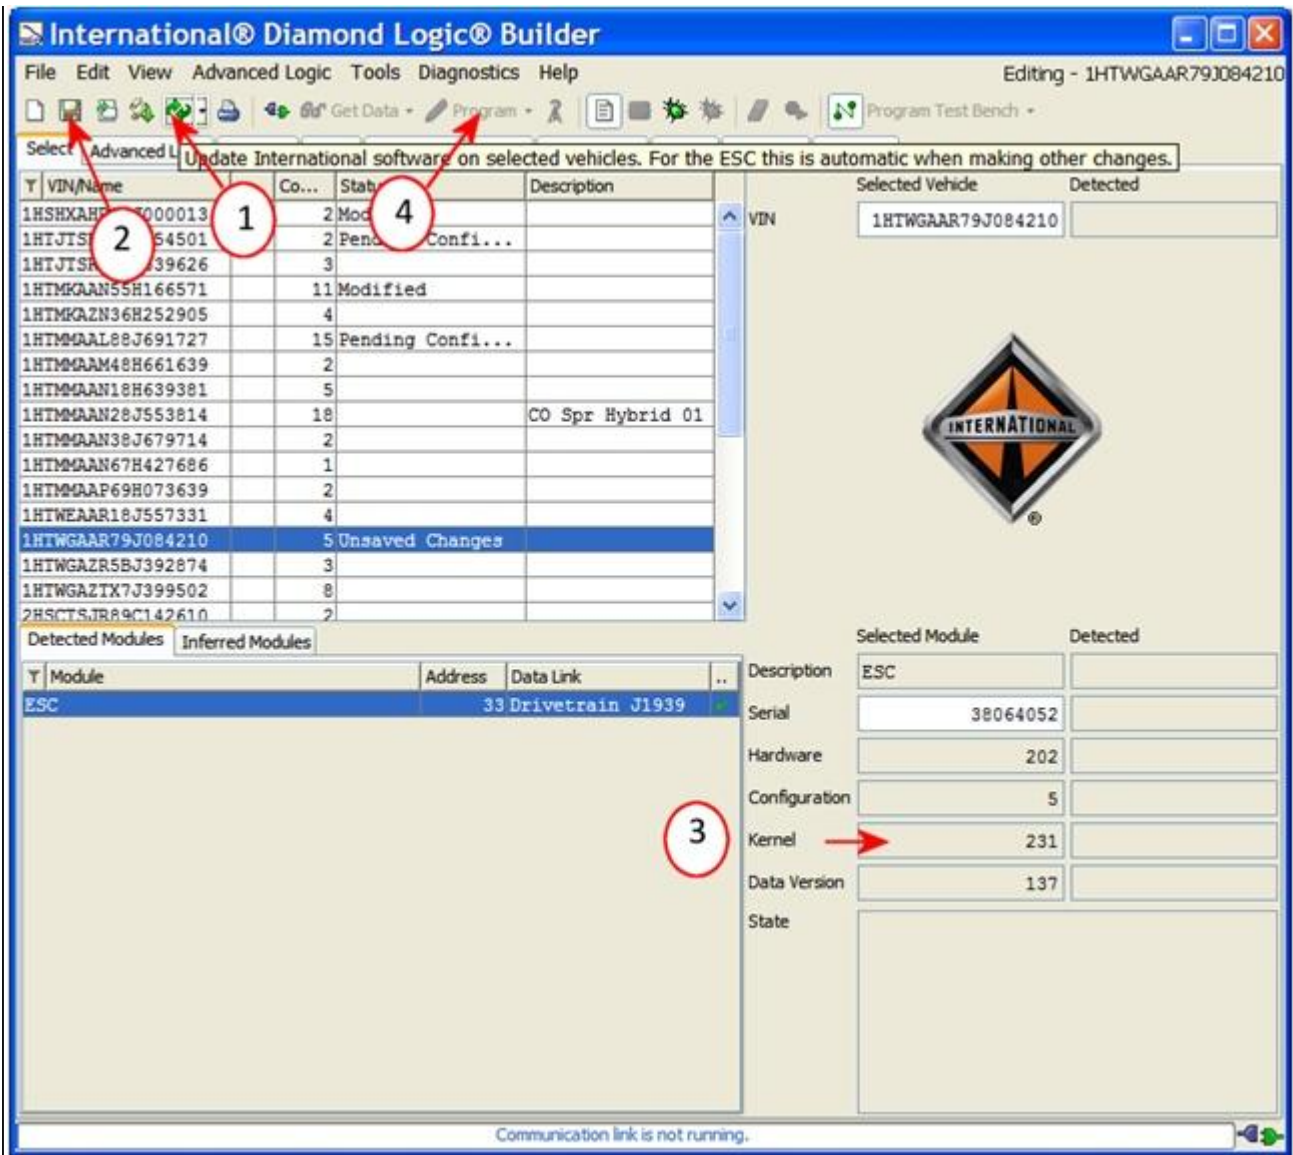

Figure 2 - Updating Software Version with DLB
6. Click the Update Software Icon . Figure 2 - Item 1
7. Click the Save Icon. Figure 2 - Item 2
8. Check the Kernel Version is updated. Figure 2 - Item 3
9. Click the Program Button . Figure 2 - Item 4